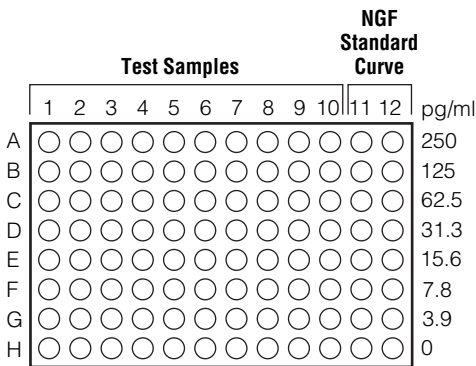

Figure 2. Recommended ELISA plate format for standard curve and test samples.
1. Following plate blocking, flick out the contents of the wells over a sink. Slap the plate three times upside down on a paper towel to remove residual liquid and wash once with TBST wash buffer as described in Section V.C, Step 1. Designate two columns of wells (16 wells) for the standard curve. To prepare the NGF standard curve within the assay plate, add 100µl/well of the Block & Sample 1X Buffer to wells in rows B through H in the two columns designated for the standard curve (Figure 2).
3. Immediately perform serial 1:2 dilutions (100µl/well) down the plate in the columns designated for the standard curve. In the last set of wells for the standard curve, do not add any NGF. The final concentrations (in duplicate) within the plate will be 0-250pg/ml (Figure 2).